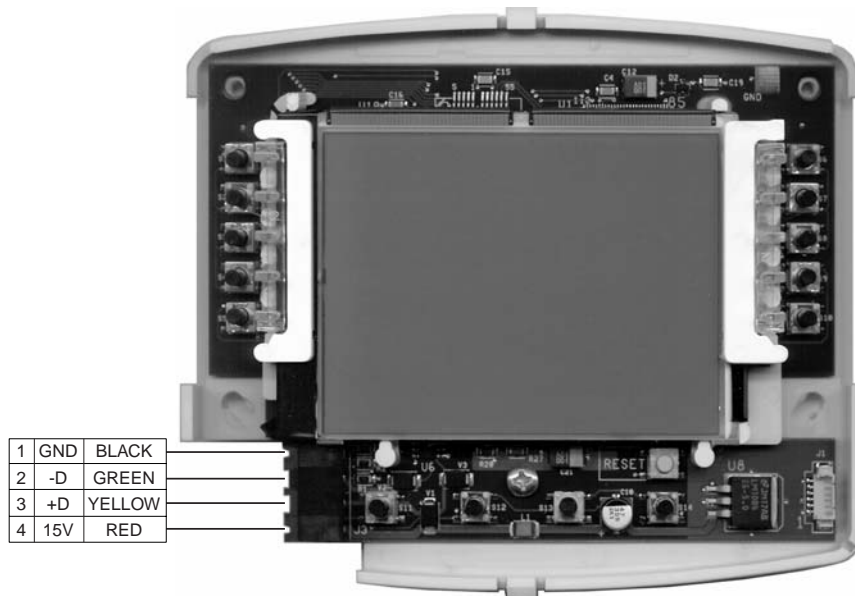

Figure 7.
7. Strip the leads of the communication cable conductors ¼ in. and attach to controller plug screw terminals as shown in Figure 7. Be sure to match color-coding of the wires to the controller PCB marking on the back. An optional cable clip feature has been built into the back plate to help guide the communication cable. Feed the cable back into the wall so that the remainder left outside the wall will fit behind the back plate.
See the installation instructions of the Indoor Control Panel with the exception of the cable connections. Run the four conductor cable from the transceiver and the two conductor cable from the transformer to the Indoor Control Panel location. Strip the leads of the wires about ¼ in. and attach to controller plug screw terminals, see Figure 7. Be sure to match color-coding of the wires to the controller PCB marking on the back. The preferred wire color scheme is: red, yellow, green, and black. Connect the positive line of the transformer to red and the ground to black. Multiple wires may be inserted into a single screw terminal.